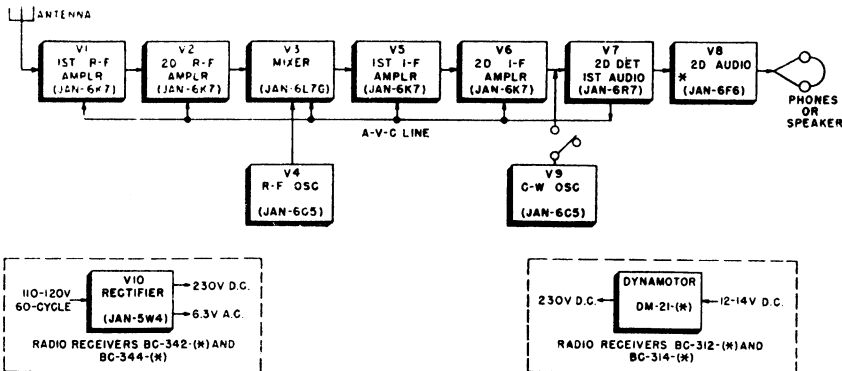

Figure 17. Receiver simplified block diagram.
a. RADIO RECEIVERS BC-312-(\*), BC-342-(\*), BC-314-(\*), and BC-344-(\*) are similar in design with the exception of their frequency coverage and supply voltage. A simplified block diagram of the receivers is given in figure 17. The received signal from the antenna is applied to the first r-f amplifier stage, V1, where it is amplified before being fed to the second r-f amplifier stage, V2. The two r-f amplifier stages each use a Tube JAN-6K7 high-gain pentode to provide a high degree of selectivity and sensitivity while rejecting interfering signals at intermediate or image frequencies. The amplified r-f signal is then applied to the mixer or converter stage along with the output of the r-f oscillator stage, V4. The r-f oscillator signal beats against the
d. Two sources of plate voltage are provided for the receiver circuits. (See fig. 17.) Radio Receivers BC-312-(\*) and BC-314-(\*) are designed for operation from a battery source and are equipped with a dynamotor to convert the 12- to 14-volt battery supply into 230 volts direct current. Radio Receivers BC-342-(\*) and BC-344-(\*) are designed for operation from a 110- to 120-volt, a-c supply and are equipped with a vacuum tube rectifier, V10, to convert the a-c supply voltage into direct current for operation of the receiver circuits.